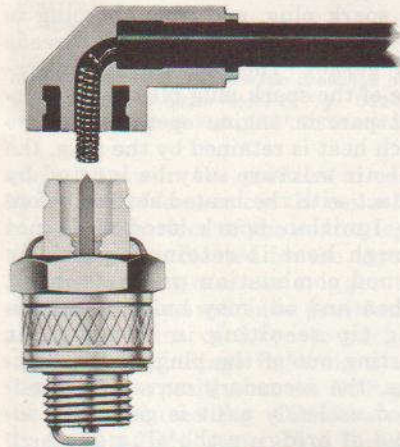

Fig. CS34—Cut-away view of special "shorty" type spark plug and terminal available for chain saw engines. Refer to Fig. CS35 for a second type special plug.
Fig. CS35—View showing special "bantam" type spark plug as compared with regular type spark plug of same heat range. Refer also to Fig. CS34 for view of special "shorty" type plug.
**SPECIAL TYPES.** Sometimes, engine design features or operating conditions call for special plug types designed for a particular purpose. Of special interest when dealing with chain saw engines are the "shorty" type plug shown in Fig. CS34, and the "bantam" type plug shown in Fig. CS35.